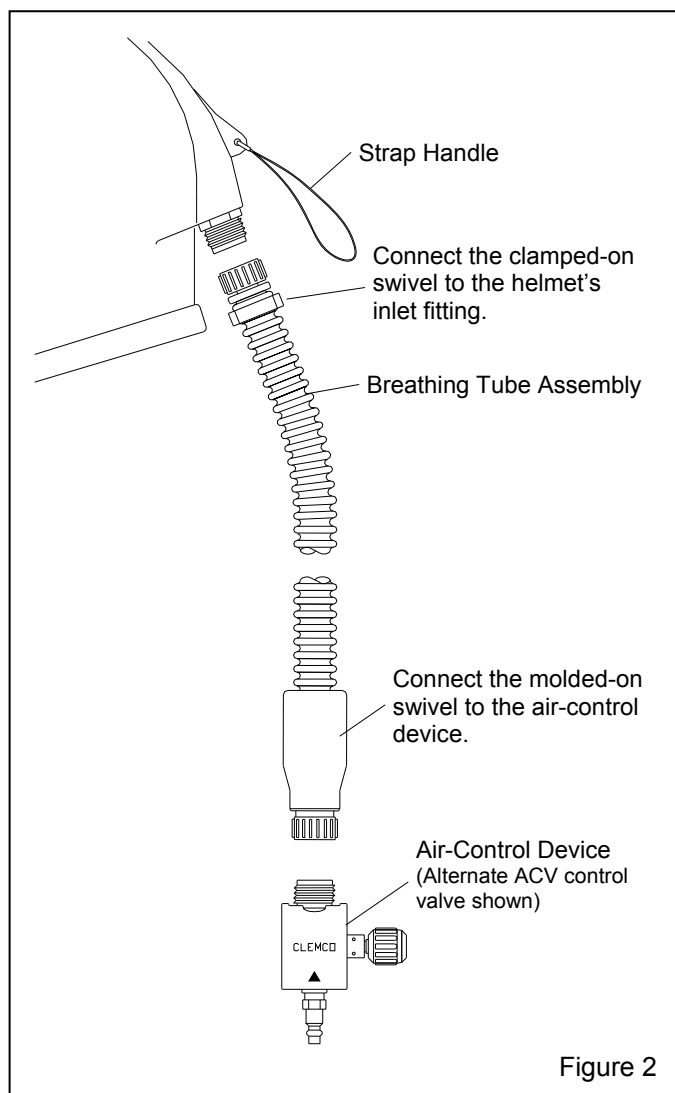

Figure 2
**3.3.1** The breathing tube has a clamped-on end and a molded-on end. Attach the clamped-on end to the threaded air-inlet fitting at the back of the helmet as shown in Figure 2. Do not over-tighten; hand-tight is sufficient.